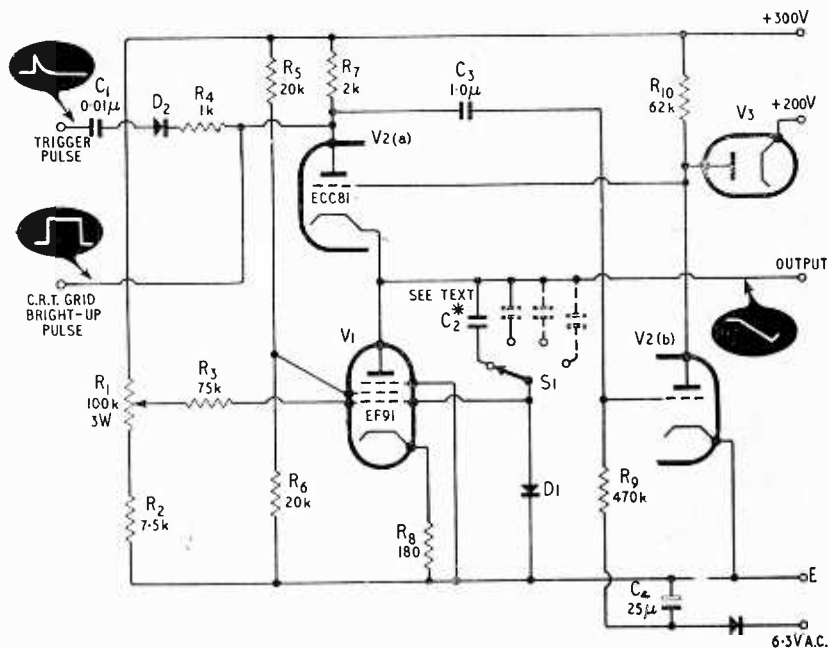

Fig. 2. Adaptation of the free-running circuit to provide triggered (single-shot) high-speed timebase.
**High-speed Triggered Timebase.**—The circuit of Fig. 1 may be made mono-stable by returning the "earthy" end of  $R_8$  to a negative potential, as in Fig. 2.
It will be seen from Fig. 2 that the maximum charging current flowing through  $R_3$  is equal to  $300/75 = 4mA$  (1mA in Fig. 1). The expression for  $C_2$  will have to be modified accordingly:—
At high speeds, it is generally more difficult to produce the beam brightening pulse than to initiate the sweep. To brighten the trace a definite excursion of voltage in (ideally) zero time is required, whilst sweep-initiation requires only a finite rate-of-change of voltage. For this reason the bright-up waveform is taken from the same current path as the sweep waveform (see Fig. 2). so that the beam is "turned on" at the same time as the sweep.
**Conclusions.**—The two circuits given are meant to be of a general nature and are easily adapted to specific applications. For example, by limiting the end of the sweep with a diode connected to "catch" V2(b) anode (Fig. 2), an accurate pulse-delay circuit is formed (the sweep duration depends only on the charging current, the limits of sweep and the sweep capacitor).